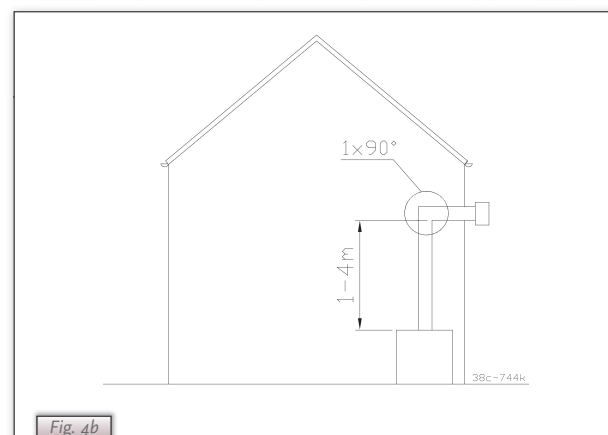

Fig. 4b
- 1) a minimum 1 meter up to maximum 4 meter vertical pipe length in combination with a 90° bend and a wall duct (i.e. no horizontal part; see Fig. 4b).